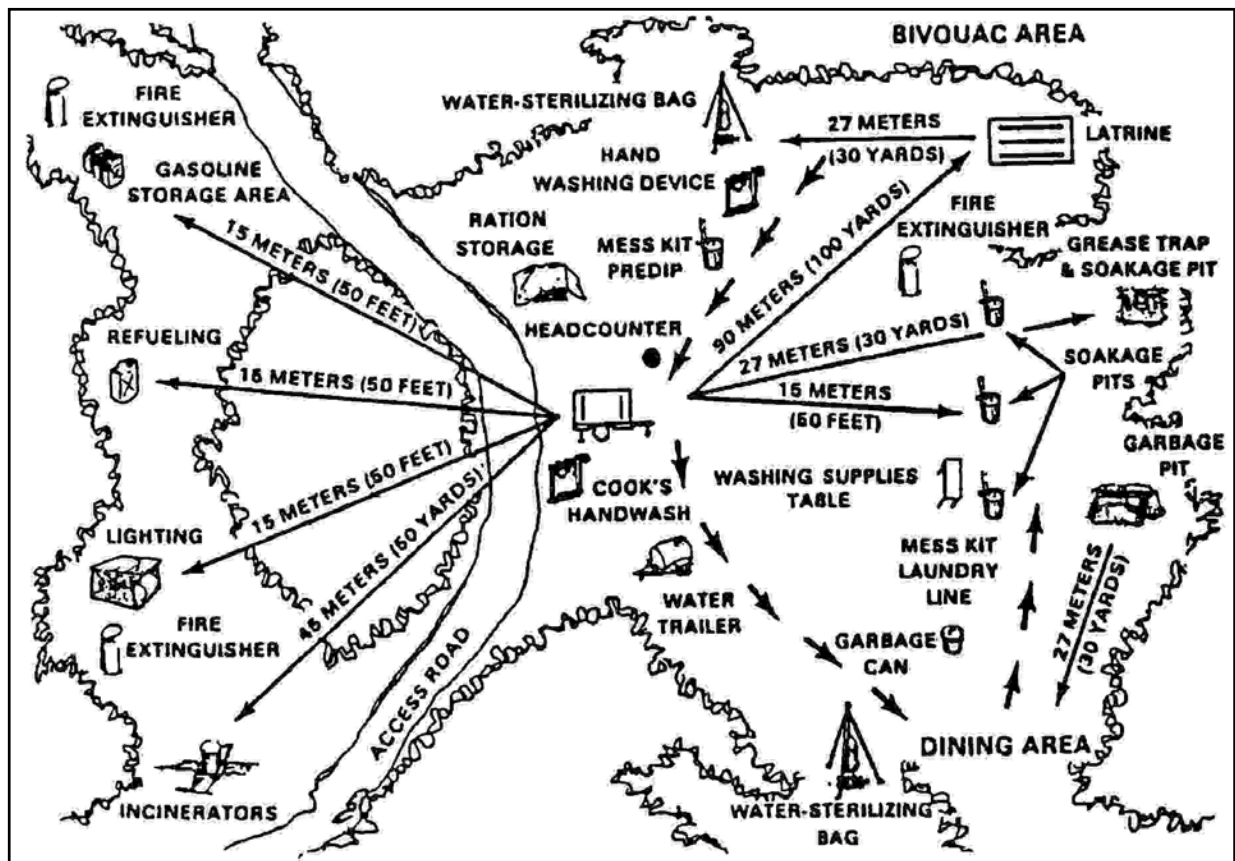

Figure 3-30. Field Kitchen Layout in a Rear Area
6. Determine the best available site for the field kitchen operation (see Figure 3-30).